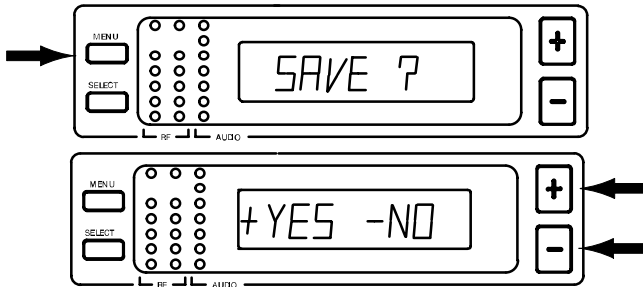

FIGURE 24
6. When the new name has been completely entered, press the MENU button. "SAVE?" appears, followed by "+ YES – NO". Press the "+" button to save the new name and return to the Group/Channel/TV display. Press the "-" button to make more changes. See Figure 24.